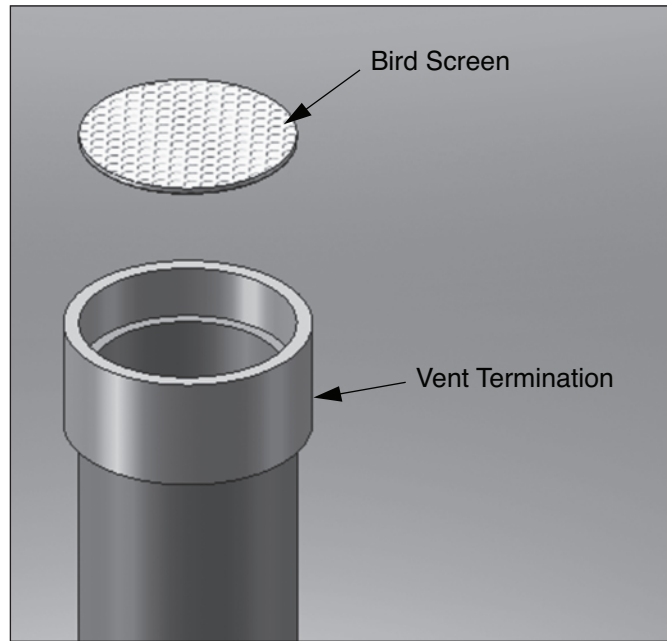

Fig. 4: Vertical Vent Bird Screen Installation
1. The vent and combustion air terminations must include a factory supplied "bird screen" installed as shown in Figs. 4, 5 & 6 on page 10.